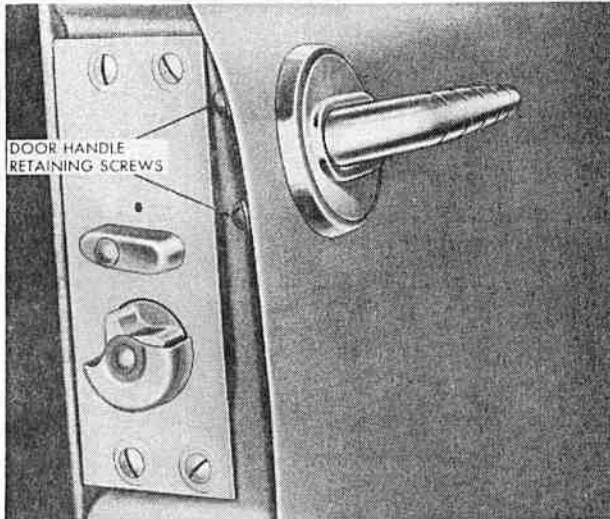

FIG. 12
**OUTSIDE DOOR HANDLE** Remove the two retaining screws and star washers from the inner edge of the door panel and remove the outside door handle assembly (see Fig. 12).